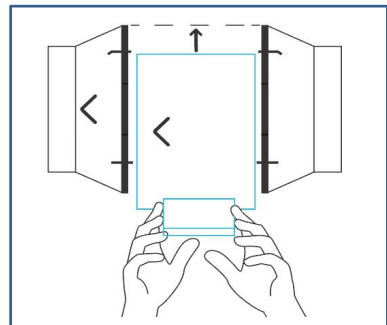

Fig.8.
- 4、 Slide the motor box back into the flange bracket, making sure its airflow arrow is pointing in the same direction as the flange bracket's arrow. See the (Fig.8.)